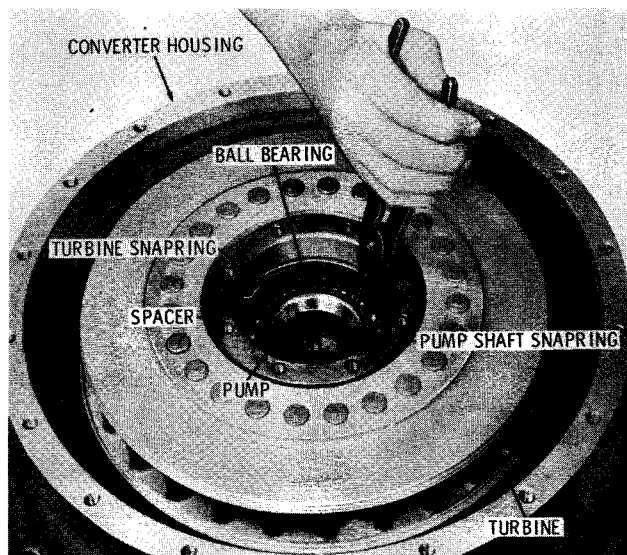

Fig. 5-12. Removing (or installing) turbine and pump bearing retaining snapping
(3) Remove the pump shaft snapping (fig. 5-12) that retains the turbine and pump bearing.